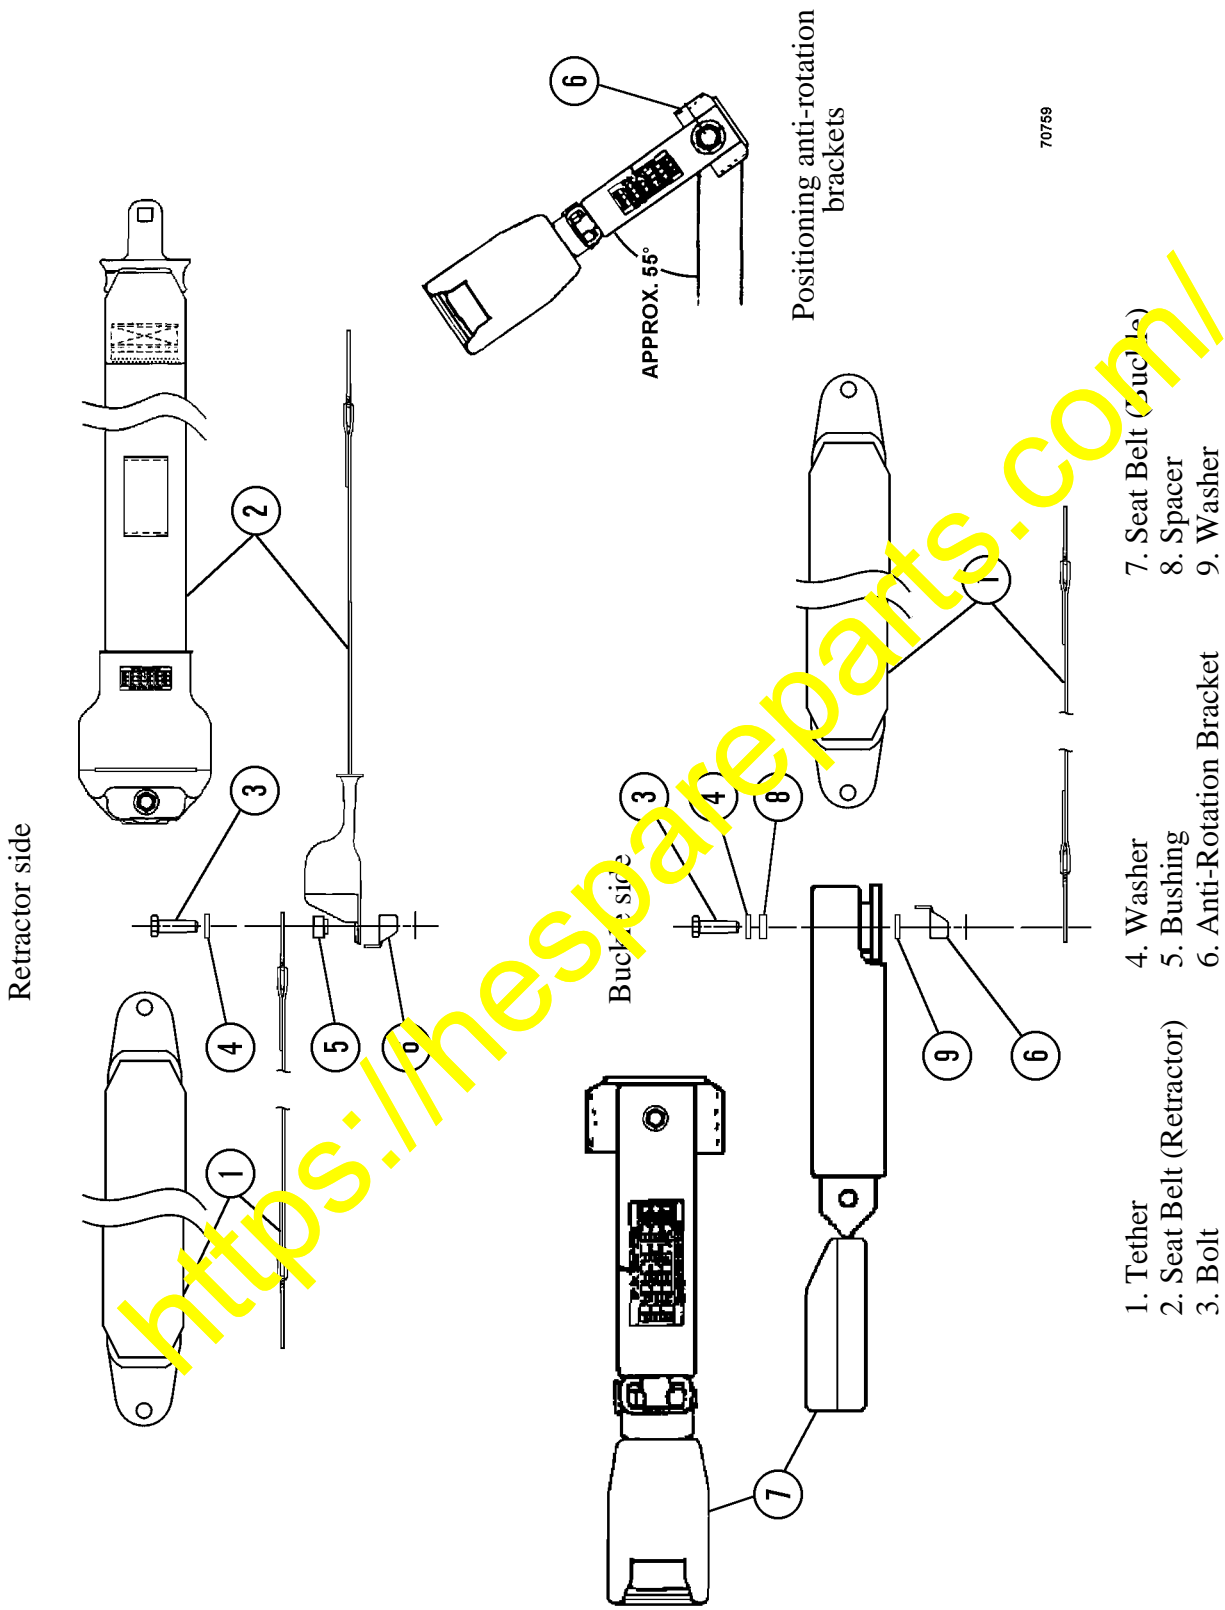

FIGURE 7. SEAT BELT INSTALLATION
15. Install seat belt assembly (421-960-A520) to the operator seat. Refer to Figure 7 for correct installation of components. Note the correct position of the anti-rotation bracket (6).
16. Tighten bolts (3, Figure 7) to a torque of 45 ft.lbs. (6.2 kgm).